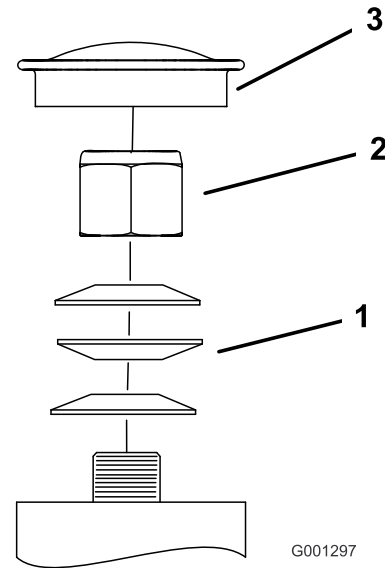

Figure 65
4. Tighten the locknut until the spring washers are flat and then back off a 1/4 turn to properly set the pre-load on the bearings (Figure 65).
Important: Make sure the spring washers are installed correctly as shown in Figure 65.
5. Install the dust cap (Figure 65).
3. Remove the dust cap from caster and tighten lock nut (Figure 65).